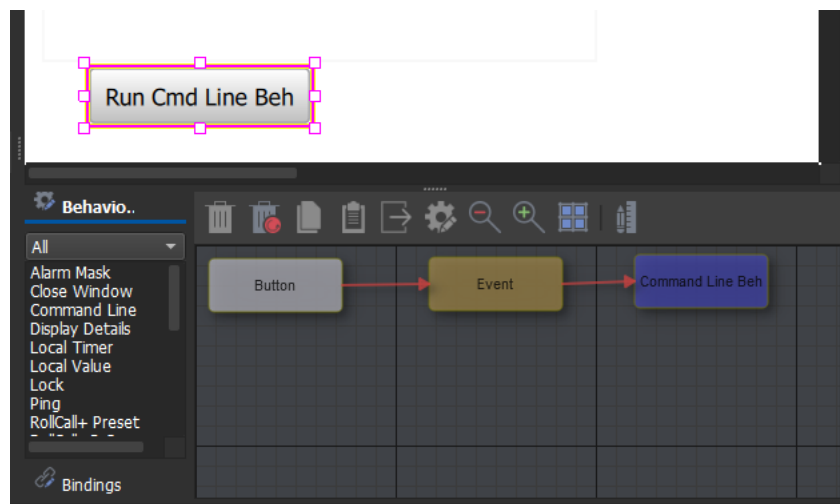

Fig. 7-39: Button Widget, Event Binding and Command Line Behaviour
- 1 Add a **Button** widget, an **Event** Binding and a **Command Line** Behaviour. See Figure 7-39.